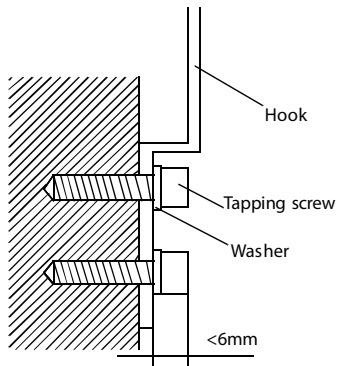

Fig. 10 — Hang the indoor unit
3. Once the hooks are secured, lift the unit and mount it on the hooks. Be sure the hooks are on the correct mounting locations on the back of the unit (see Fig. 10).